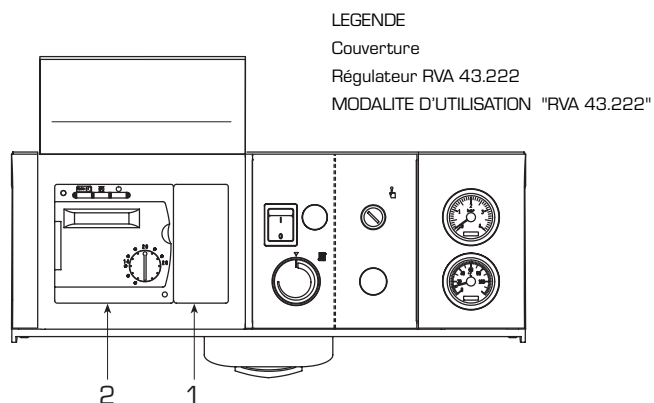

Fig. 10
2.8 MONTAGE REGULATEUR CLIMATIQUE RVA43.222 (fig. 10)